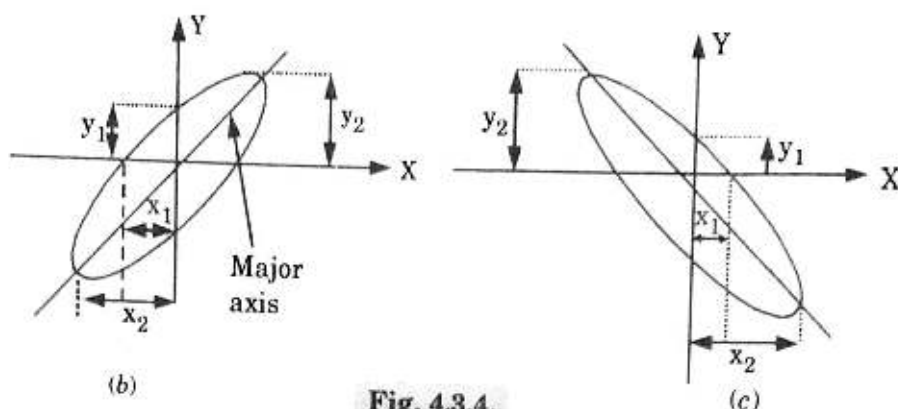

Fig. 4.3.4.
3. Two equal voltages of same frequency but with a phase shift ϕ is applied to a CRO we obtain Fig. 4.3.4.